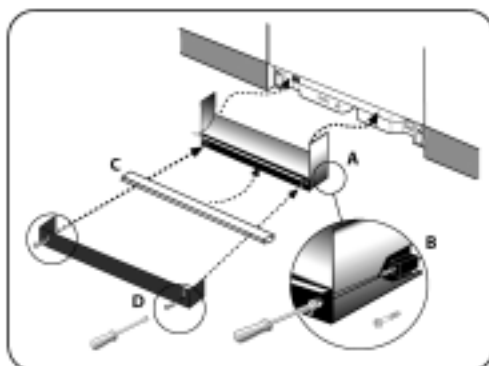

Figure 31/Illus. 31
- 1) Place the Base Part under and up the front bottom panel of the dishwasher, as shown in Figure 31.
- 2) Insert the Base Part screws (Figure 1, letter O) into the Base Part, as shown in Figure 31, letter B. Tighten the Base Part Screws.
- 3) Place the Cotton Insulation Strip (Figure 1, letter C) under the unit, between the bottom of the Base Part and the floor, as shown in Figure 31, letter C.
- 4) Place the toe panel over the Cotton Insulation Strip, and use the toe panel screws (Figure 1, letter N) to secure the toe panel in place, as shown in Figure 31, letter D.